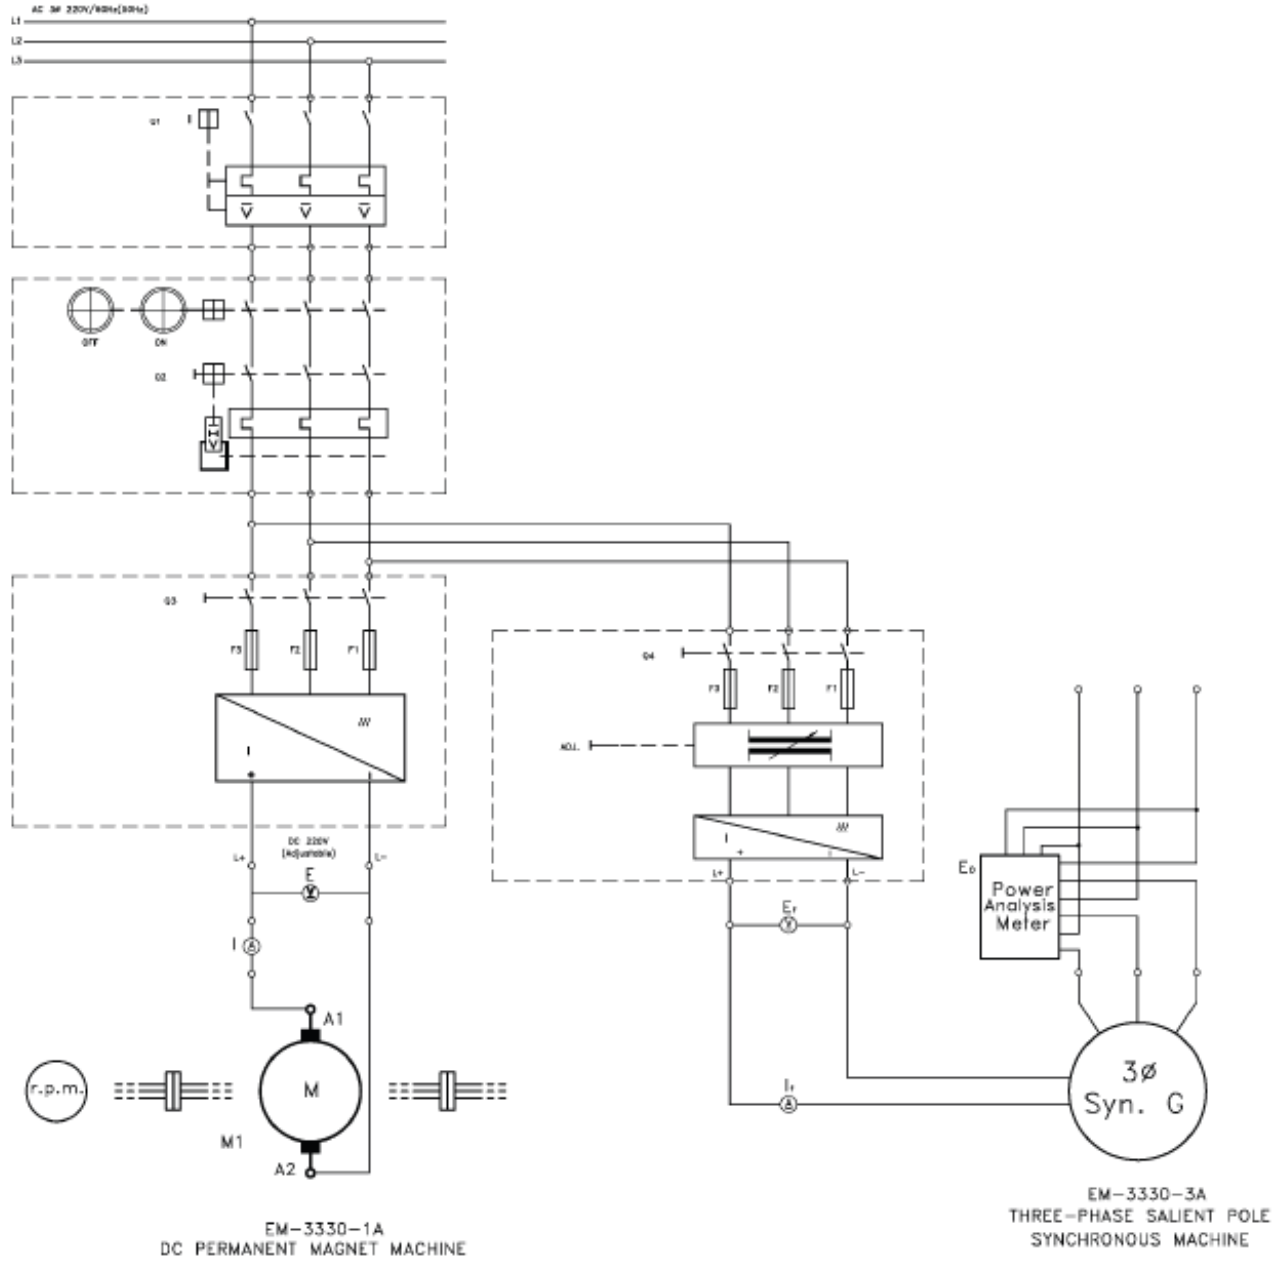
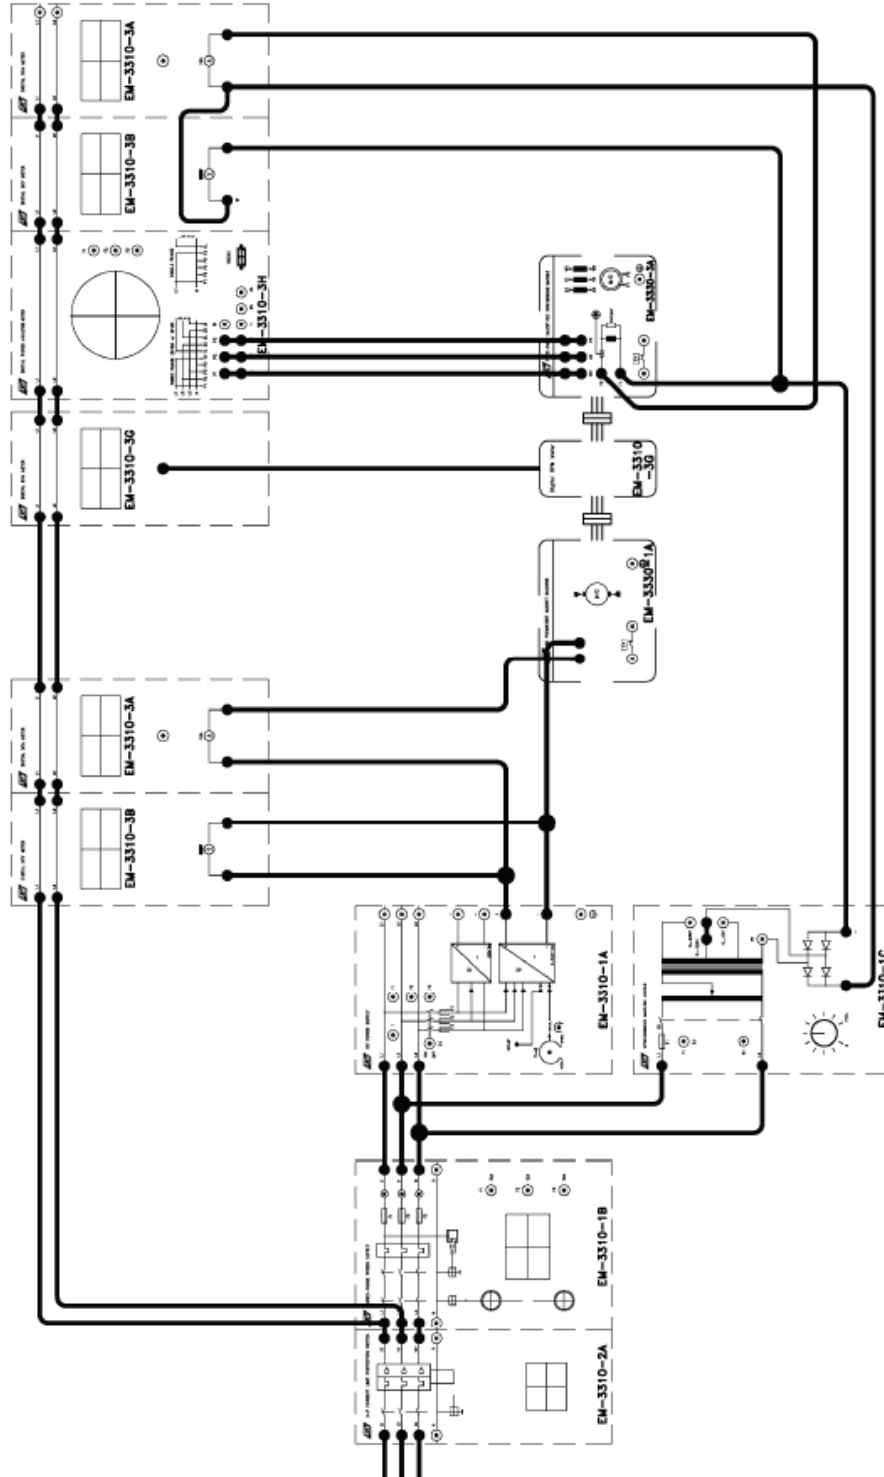

Fig. 15-2-1 Circuit diagram for no-load saturation test
Fig. 15-2-2 Connection diagram for no-load saturation test
1. Place the DC Permanent-magnet Machine, Three-phase Salient Pole Synchronous Machine, and Digital RPM Meter on the Laboratory Table. Mechanically couple the DC Permanent-Magnet (PM) Machine to the Three-phase Salient Pole Synchronous Machine and the Digital RPM Meter using Couplings. Securely lock the Machine Bases together using the delta screws. Install the Coupling Guards and the Shaft End Guard.
2. Install the required Modules in the Experimental Frame. Construct the circuit in accordance with the circuit diagram in Fig. 15-2-1 and the connection diagram in Fig. 15-2-2. Have the instructor check your completed circuit. The synchronous generator operates in delta.